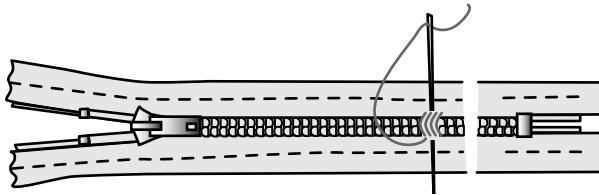

Figure 3
Always choose the most appropriate zipper for the finished item based on the design of the item, the fabric type, and fabric weight. Be sure to select a zipper that is long enough for the location to prevent strain when getting in and out of the garment or item. If the desired length is not available, choose a longer zipper and shorten it. Instructions for shortening a zipper are included in this factsheet (Figure 3 on page 3.)
- ★ To shorten a zipper, whip or machine zigzag stitch across the teeth of the zipper at the desired length. Trim excess. (Figure 3)